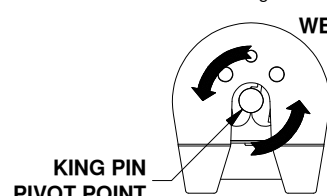
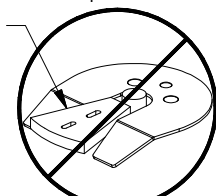

Figure G3: Top view of coupler head.
Figure G4: Coupler Head with locking wedge.
**WARNING:** Do not use the Companion 5th wheel hitch with any device that changes the location of the king pin pivot point. The king pin on your trailer must rotate in the jaws of the Companion Coupler, see Figure G3. Preventing the king pin from rotating within the jaws of the Companion Coupler with a wedge, see Figure G4, or any other device, such as a Reese Sidewinder ® or Reese Revolution ®, could result in property damage, serious injury or death.